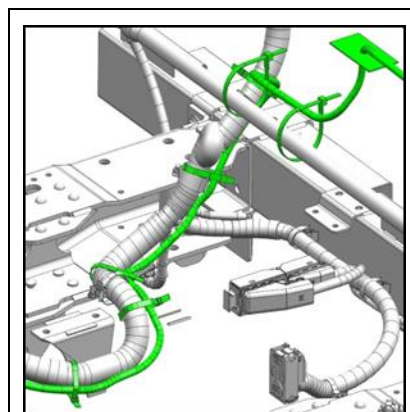

Figure 33
13. Proceeding from the torsion bar, use four (4) tie straps to secure the DFT harness to the main chassis harness. Route the DFT harness on the right of the main chassis harness and behind the DEFCM bracket as indicated in Figure 33.